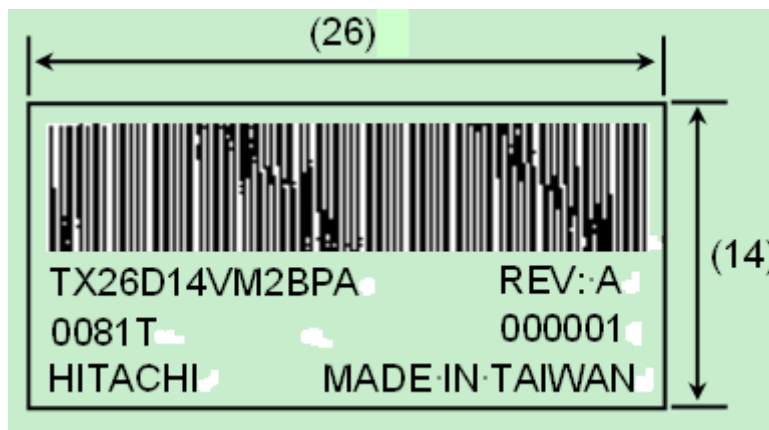

Fig. 14.1
4) The location of the lot mark is on the back of the display shown in Fig. 14.1.